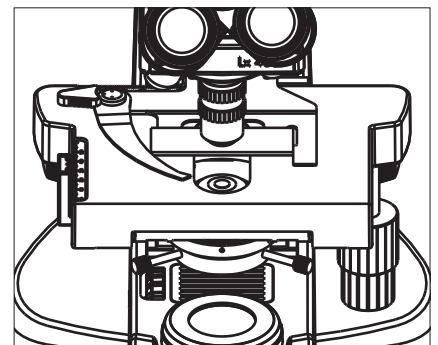

Fig. 5
5. Firmly place the specimen slide over the darkfield condenser in a way so that it touches the drop of the oil as shown in Fig. 5.